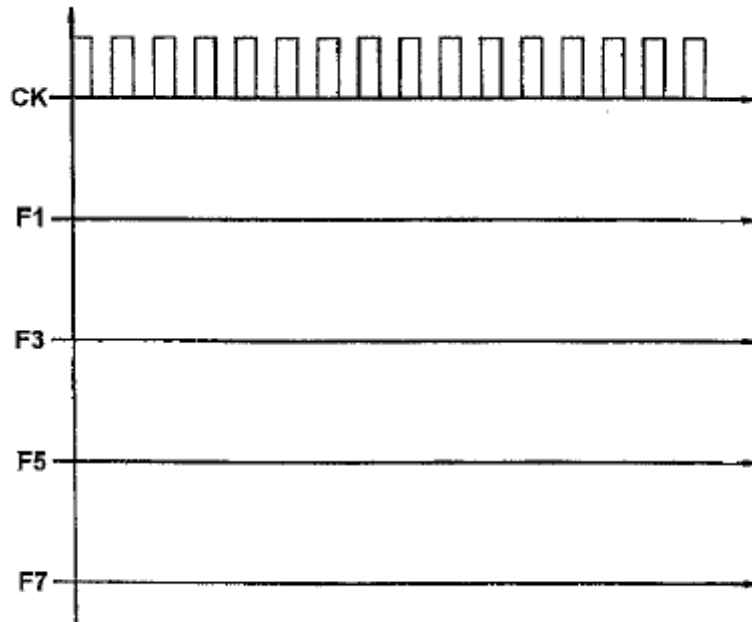

Figure 4.3
2. Connect A2 (Clear) to the  $\bar{A}$  of Pulse A, B2 (Preset) to the  $\bar{B}$  of Pulse B, B1(CK) to 1Hz of Standard Frequency. Connect outputs F1-F7 to L1-L7 respectively for LED display. Connect L1, L3, L5 and L7 to 7-segment display. Press Pulse A to set output "0000" and record the results in **Table 4.1**.
3. Enter the clock from 1kHz to 500kHz. Measure the waveforms of CK, F1, F3, F5 and F7 simultaneously and record the results in **Figure 4.3**.